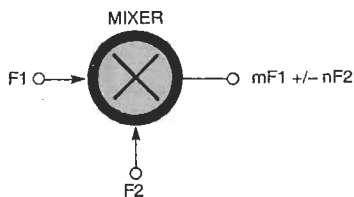

Fig. 3. In a basic mixer circuit, the sum ( $F_1 + F_2$ ) and difference ( $F_1 - F_2$ ) of two input frequencies appear at the output.
**Frequency Translation.** The process of frequency translation or conversion is called heterodyning. When two frequencies ( $F_1$  and  $F_2$  in Fig. 3) are mixed together in a nonlinear circuit, a collection of different frequencies will appear at the output. Those frequencies are characterized as  $mF_1 + /-nF_2$ , where  $n$  and  $m$  are integers or zero (0, 1, 2, 3...). For the sake of simplicity, we normally consider only the cases where  $m$  and  $n$  are either 0 or 1, so the output frequencies are  $F_1$ ,  $F_2$ ,  $F_1 - F_2$  (difference), and  $F_1 + F_2$  (sum). To make a superheterodyne receiver (the most common modern form), select either the sum ( $F_1 + F_2$ ) or difference ( $F_1 - F_2$ ) frequency as the receiver's intermediate frequency (IF). The NE602 contains a double-balanced mixer, so when it is properly impedance matched, it suppresses the two input frequencies ( $F_1$  and  $F_2$ ) at the output, and only produces the sum and difference frequencies.